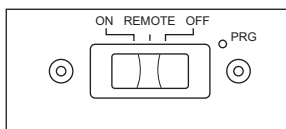

Figure 58 - Remote Selector Switch in ON Position
10. Wait one minute and switch selector switch to the ON position to light burners (see Figure 58). When using in the ON position (without remote) burners will light on high. There is no adjustment to the flames without using remote.